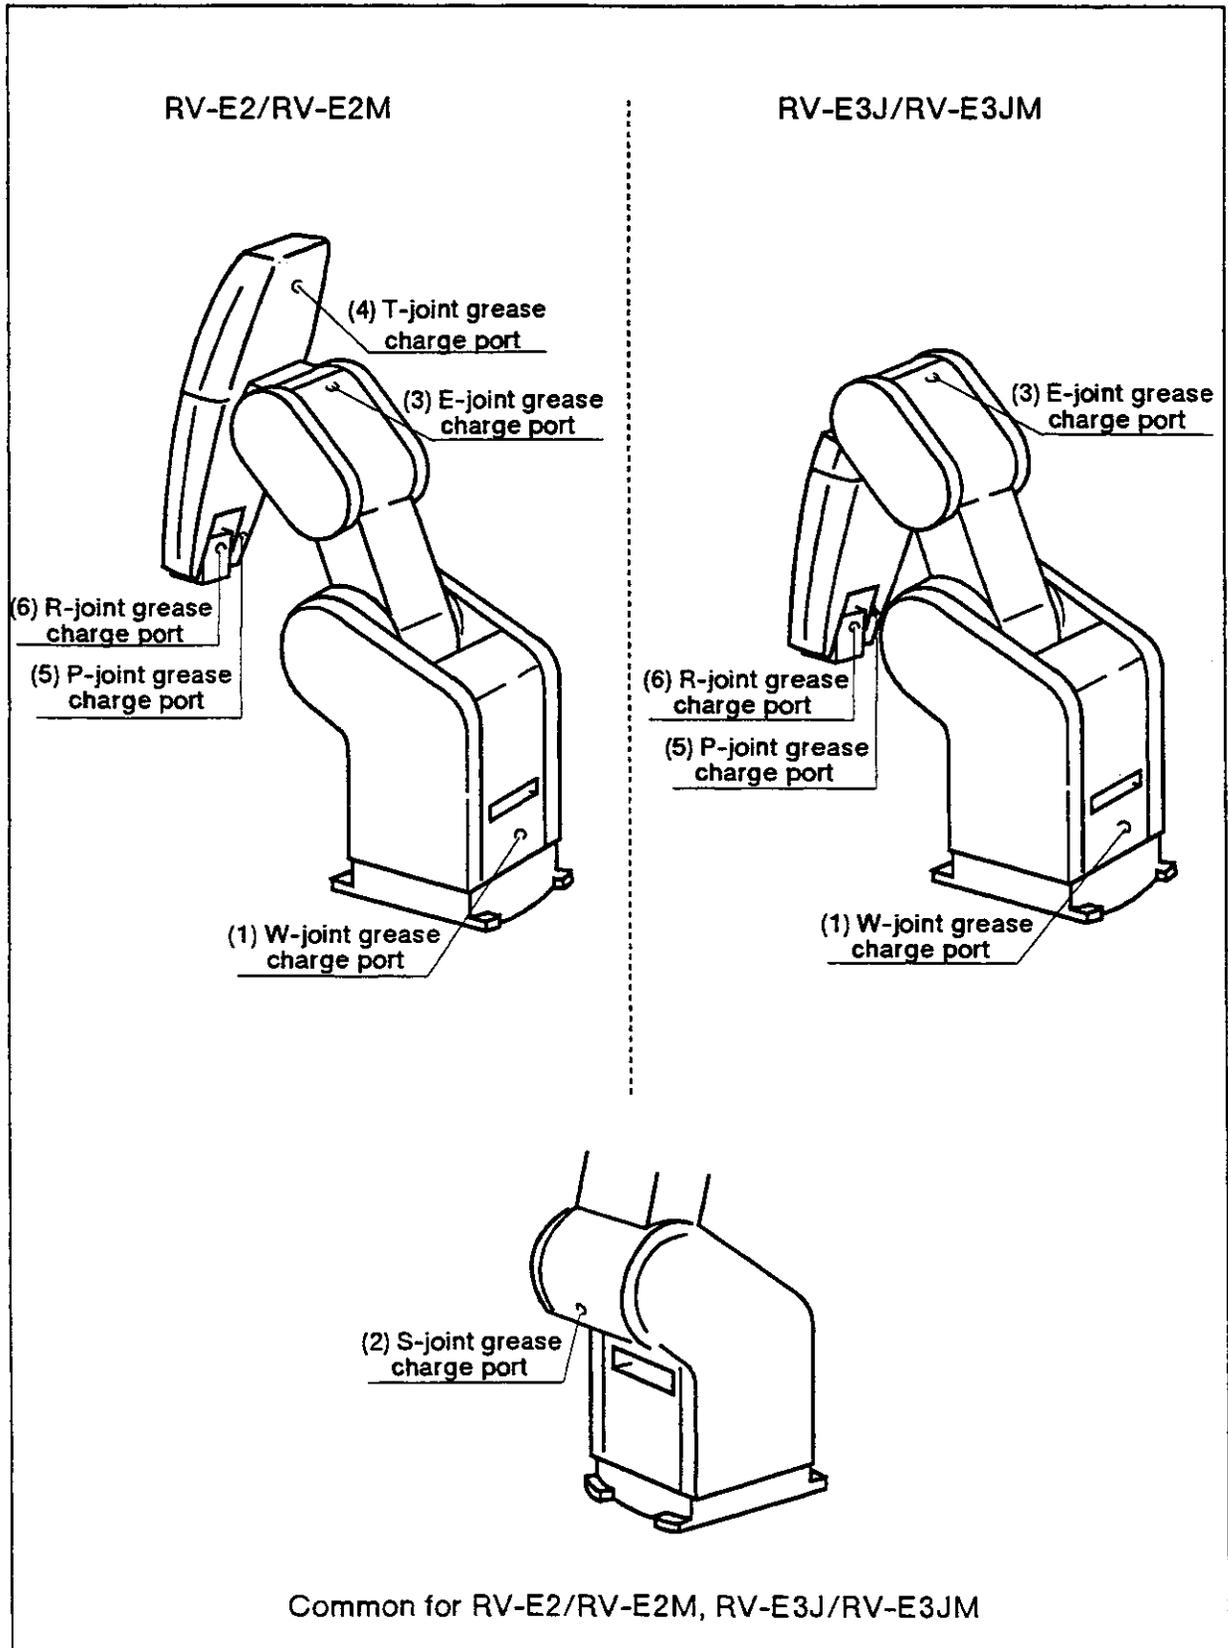

Fig. 5.6 Grease charge ports
Fig. 5.6 shows the location for the grease nipple. And Table 5.6 shows grease charge specifications for each place. When you want to charge grease, follow section 5.3.2 "Disassembling covers" to remove the necessary covers.
4. The number in the upper list corresponds to the numbers given in Fig. 5.6.
1. Pose the robot as shown in Fig. 5.6